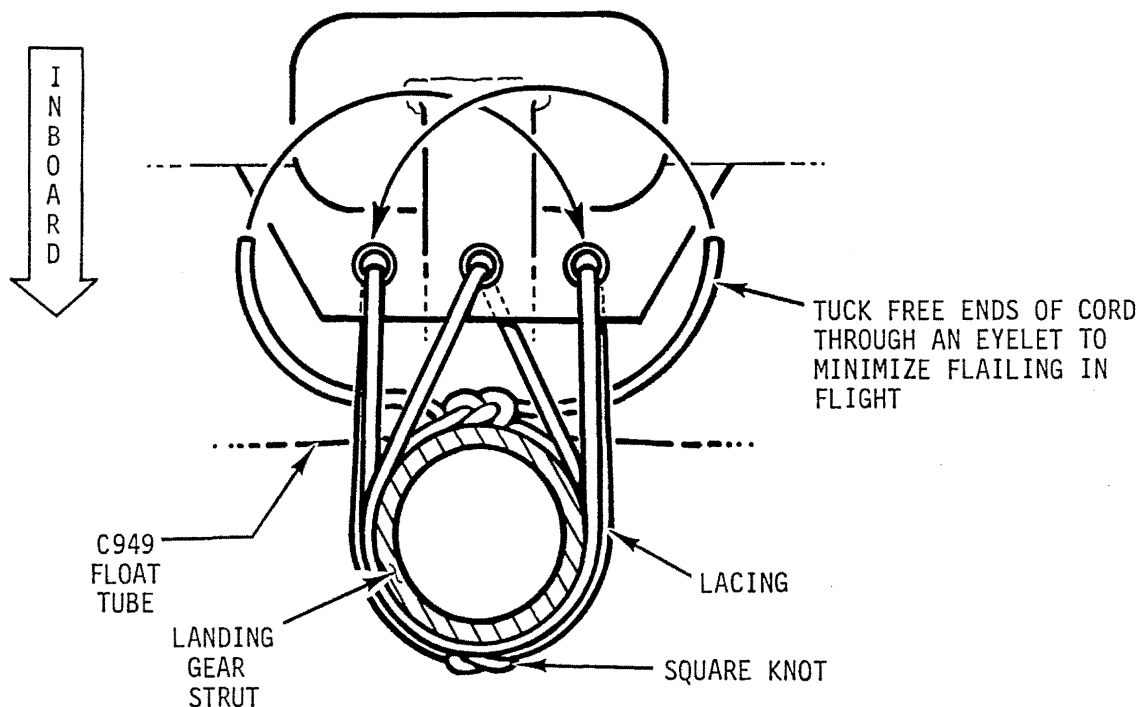

FIGURE 5-4 UTILITY FLOAT-TO-STRUT ATTACHMENT
5. Install and tighten lacing at each landing gear strut per Figure 5-4.